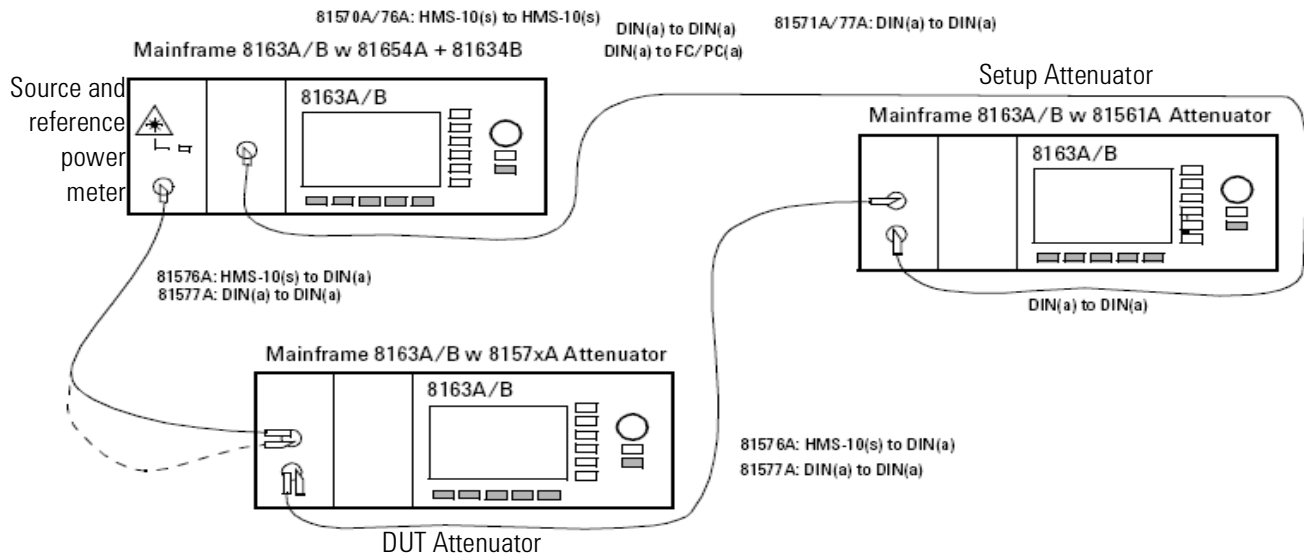

Figure 16 Relative Power Meter uncertainty Setup for SM attenuators
- 4 Connect the equipment as shown below in Figure 16.